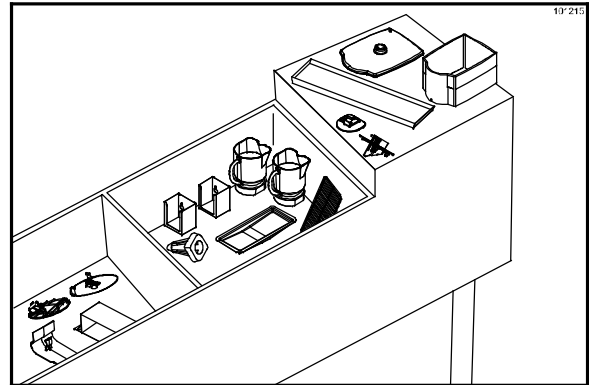

Figure 48
14. Remove the following parts and take them to the 3-compartment sink for cleaning: blender pitchers, splash guard, ice chute, skirt, syrup rail, rinse station assembly (grate, strainer, and actuator), pitcher drying station (pitcher stand grate and drip pan), lid holders, whipped cream holder, and mix cabinet drip pan. (**Note:** The bottom product bins and shelves must be removed in order to remove the mix cabinet drip pan.) (See Figure 48.)